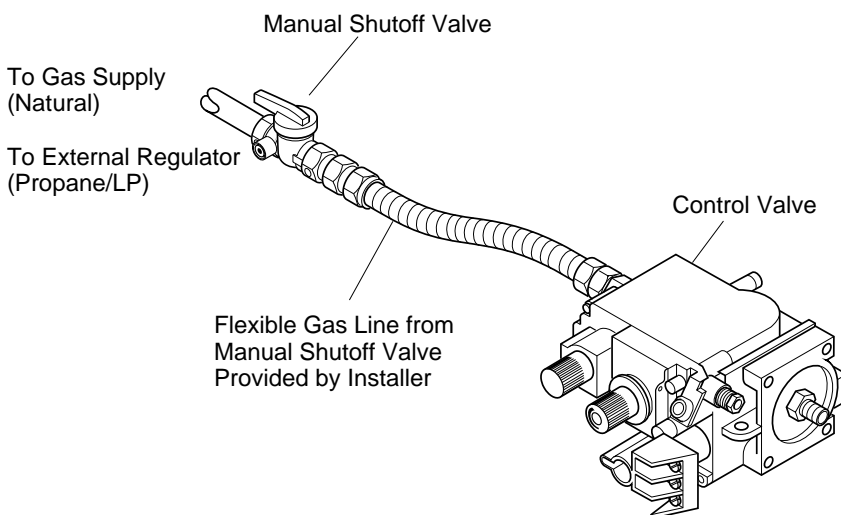

Figure 36 - Attaching Flexible Gas Line to Control Valve
3. Attach flexible gas line from gas supply (see figure 36) to fireplace gas valve.